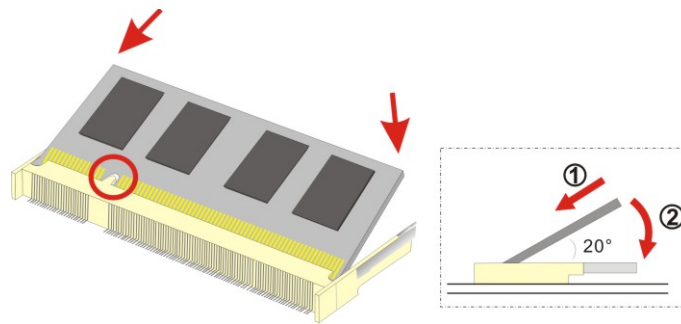

Figure 4-4: SO-DIMM Installation
To install a SO-DIMM into a SO-DIMM socket, please follow the steps below and refer to Figure 4-4.
- Step 3:** Insert the SO-DIMM. Push the memory in at a 20° angle. (See **Figure 4-4**)
- Step 4:** Seat the SO-DIMM. Gently push downwards and the arms clip into place. (See **Figure 4-4**)